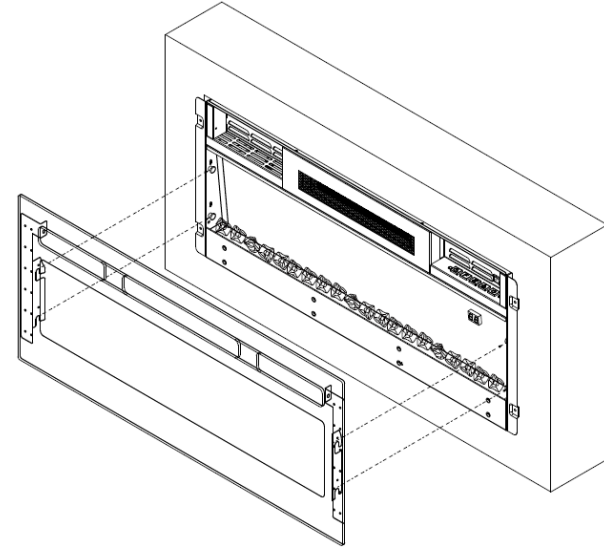

Fig.6
- Place the front glass surround over the front of the fire aligning the slots in the bracket at each side of the glass panel with the lugs on the sides of the fire; See Fig.6